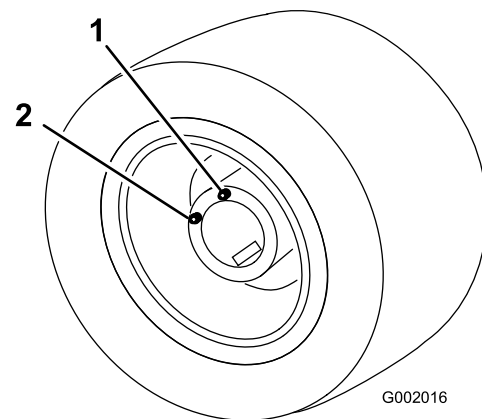

Figure 68
5. Move the vehicle slowly until the wheel is positioned for filling as illustrated in Figure 68